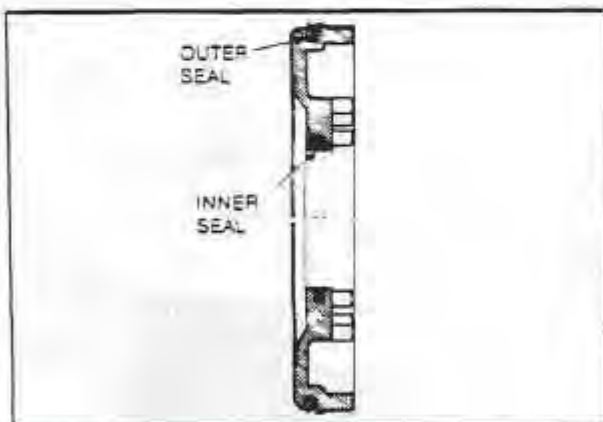

Fig. 57 C-1 PISTON SEALS
6. Remove the piston from the clutch housing. Remove the inner and outer seals from the piston. Fig. 57
Fit the square section seal inside the piston and lip-type seal on the outside of the piston with the lip facing the bottom. Fig. 57